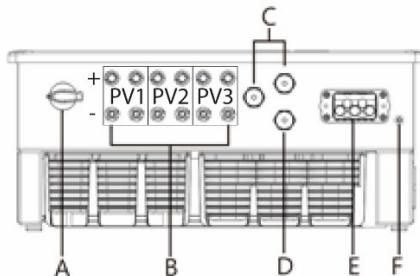

Fig. 8.2: Connection site: Legend
- 2 Connect the DC plug connectors to the DC positive and DC negative connectors in pairs (see fig. 8.2).